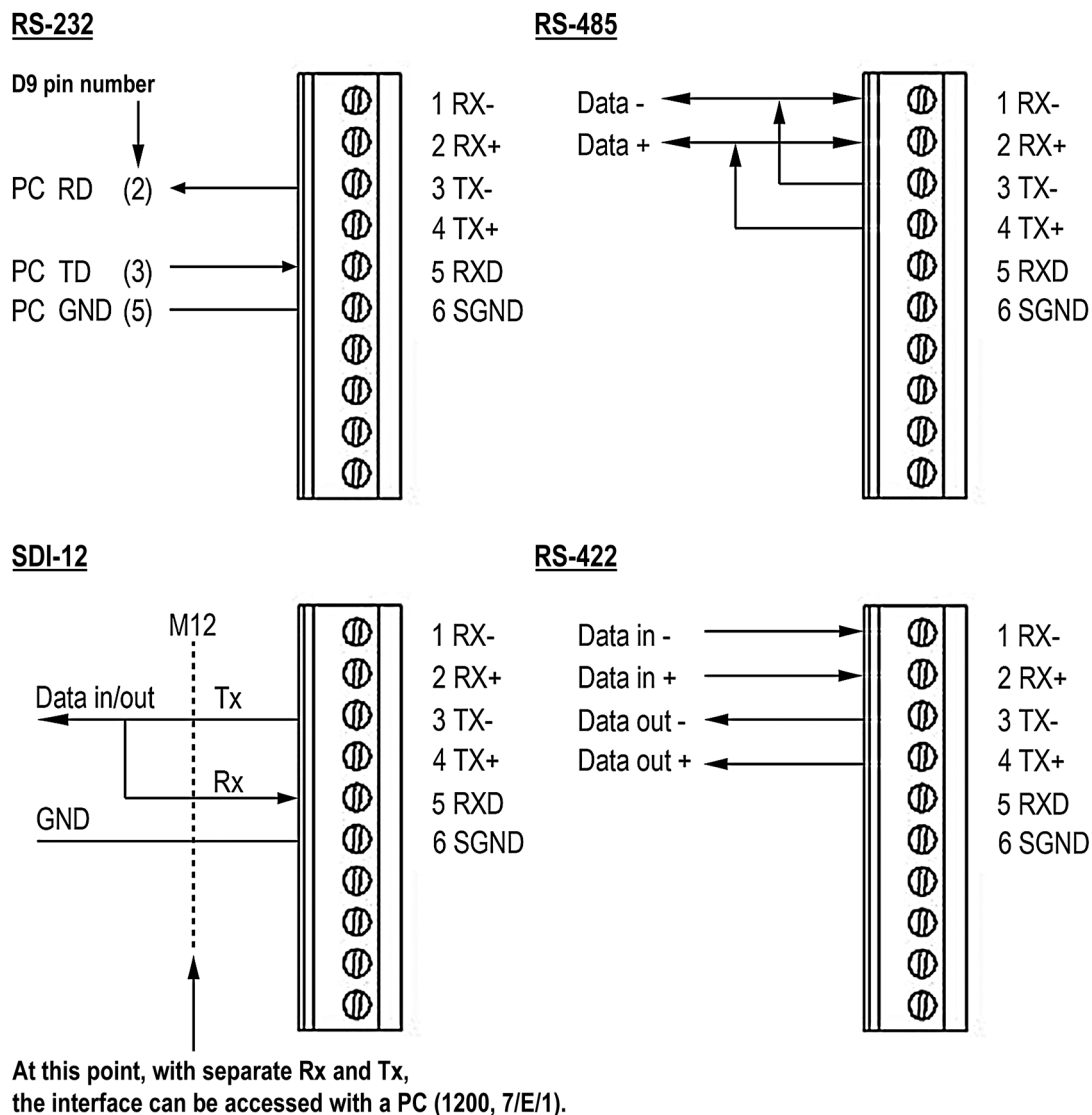

Figure 24 Data Communication Interfaces
- **SDI-12 Native mode** (M=S, C=1) has the lowest standby consumption, about **0.1 mA**. Note that it can also be used with RS-232 terminals (PC or equivalent), see the SDI-12 connection diagram in Figure 24 on page 46. In this case the commands must be in SDI-12 format, but no special line break signals are required. The SDI-12 mode is for polling only.